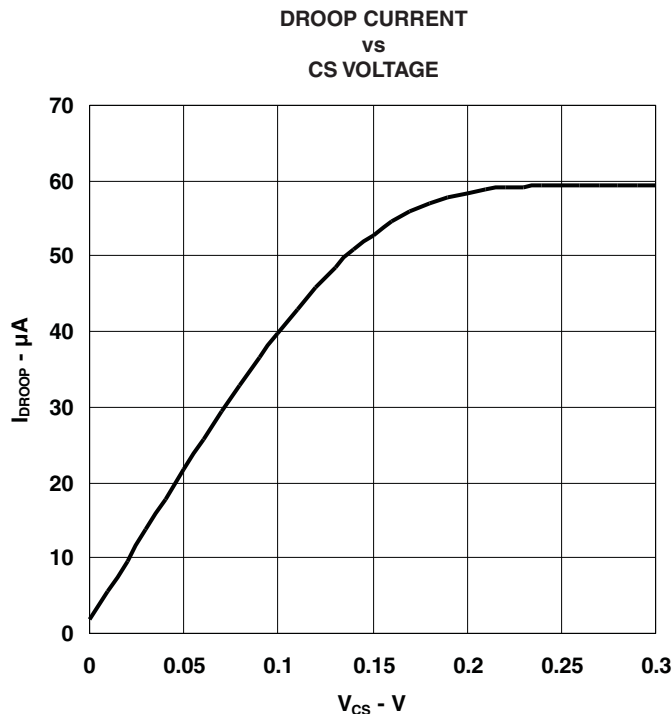

Figure 6.
(1)  $I_{\text{DROOP}}$  is relatively linear vs  $V_{\text{CS}}$  and is typically 40  $\mu\text{A}$  at  $V_{\text{CS}} = 100$  mV. Above  $V_{\text{CS}} = 100$  mV,  $I_{\text{DROOP}}$  becomes nonlinear, rolls off, and saturates to approximately 50  $\mu\text{A}$  to 65  $\mu\text{A}$  when  $V_{\text{CS}} > 200$  mV (see Figure 6). Thus, above 100 mV, Equation 9 is not accurate.